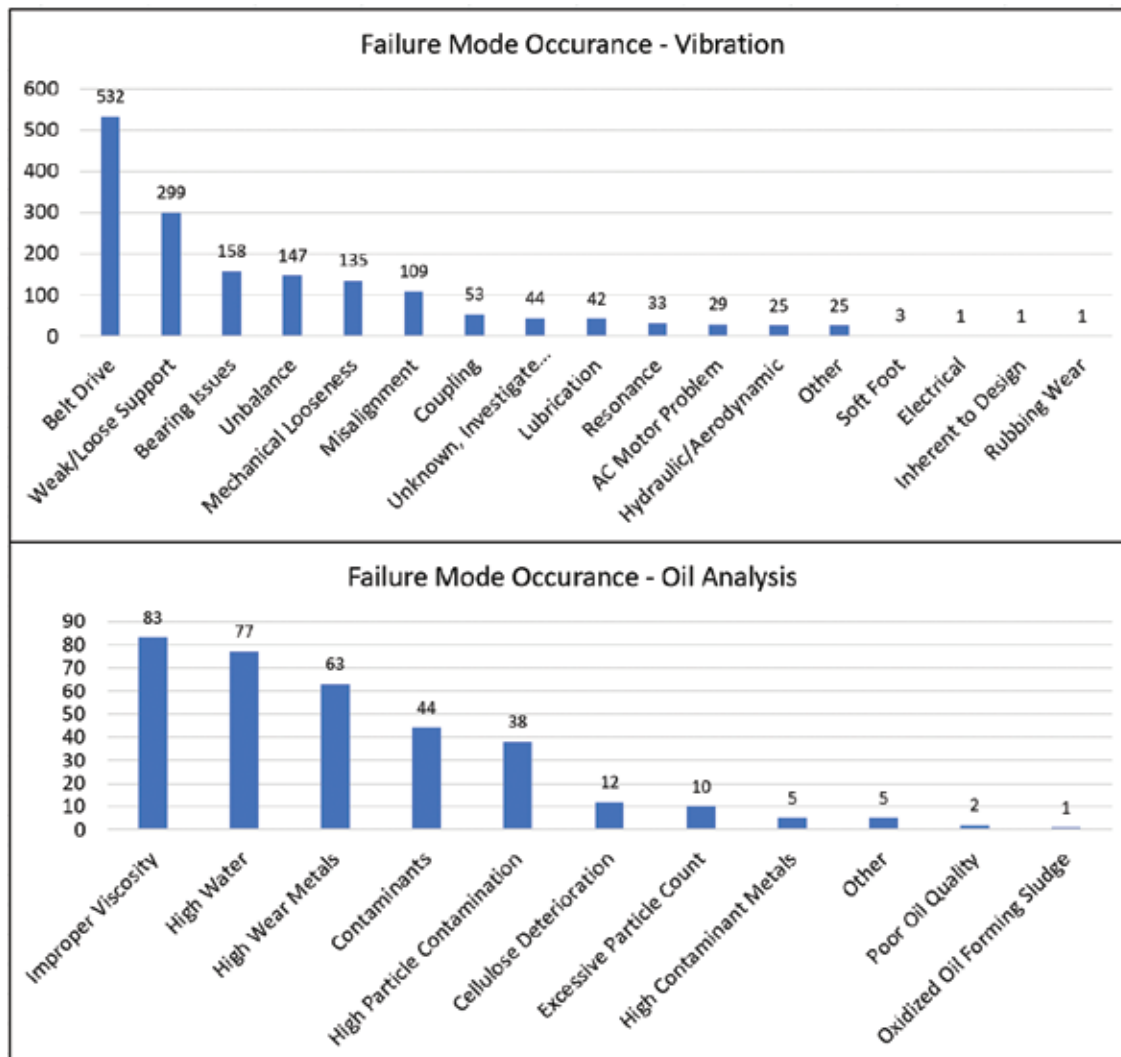

Figure 4. Failure Trending
- Proactively and routinely query the system for trending and to provide root cause analysis of reoccurring patterns. (See Figure 4)